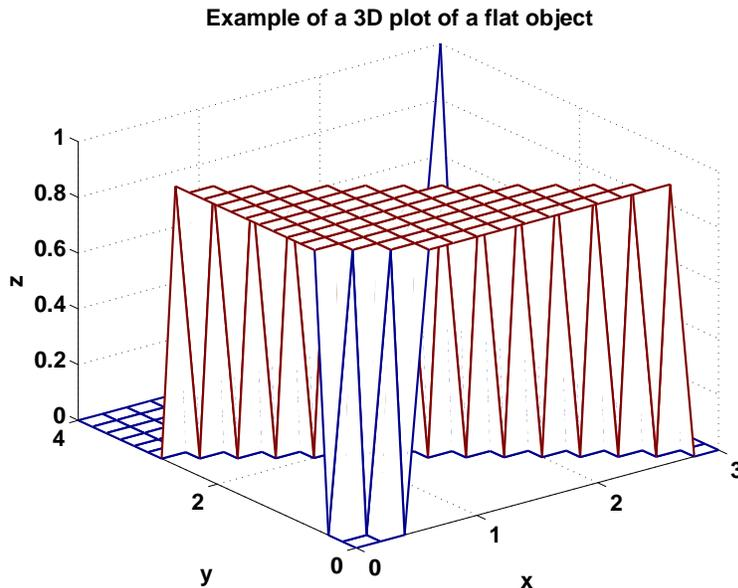

Figure 2: An example of a 3D plot Using the mesh command.
**Experiments Outline & Goal.** A target 3D object will be attached, parallel to the front wall of the aquarium, opposite the ultrasound transducer. The object is placed inside a box, covered with opaque, black gelatin. Our goal is to be able to recover and plot the 3D shape of this object. This will be done by using the ultrasound transducer to measure the distance from an  $11 \times 11$  array of equally spaced points, covering a  $10 \text{ cm} \times 10 \text{ cm}$  square in the 2D plane in which the transducer is moving, to a corresponding grid of points on the face of the shape, as schematically depicted in Figure 2. The maximal measured distance is the distance from the transducer to the wall. Subtracting all other distances from it, the distance of the various points on the face of the object, from the wall, will be computed. Since sound propagates in water and in gelatin in the same speed, distance measurement using ultrasound echoes will ignore the gelatine in the box. In other words, the gelatin is transparent to our ultrasound imaging device. The transducer will cover its domain in raster motion, using the program from Lab 3. At each grid point, the transducer will be used to measure the distance to the object, using the function `distmeasure` from Lab 4. The measured distance will be stored as a corresponding entry in an  $11 \times 11$  matrix. A 3D plot of the object will be obtained, using a 3D plot command, and rotated to several view-points.
Here you will learn how to plot the graphs of functions of two variables:  $z=f(x,y)$ , using the commands `mesh`, `surf` and `waterfall`. You will also learn and practice the use of the `view` command, to change the viewpoint of a displayed three dimensional plot. The immediate motivation for plotting such functions, in this session, is were the function  $z=f(x,y)$  describes the height of the top face of an object, in the point placed directly above the  $(x,y)$  base coordinates, as depicted schematically in Figure 2.